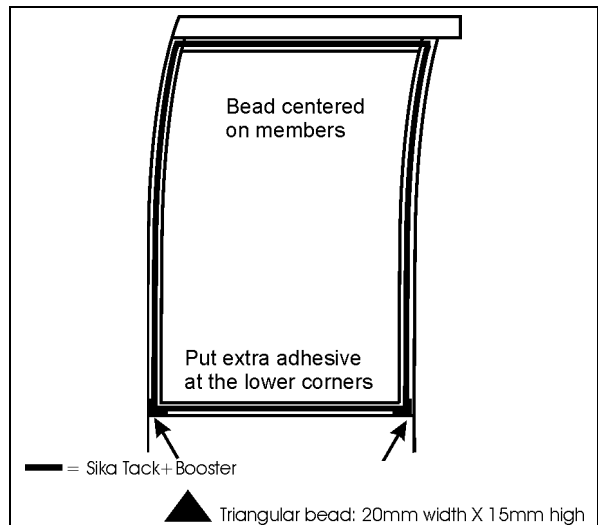
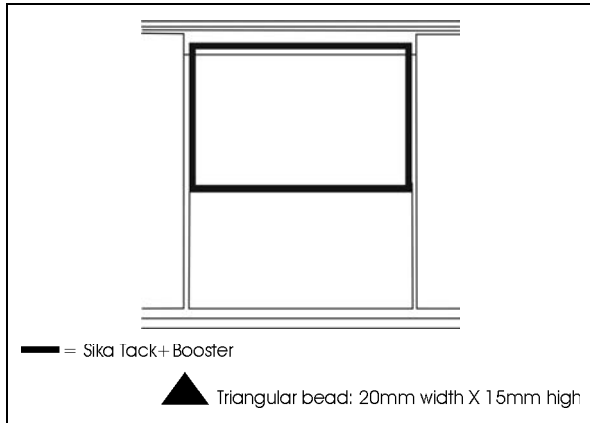

FIGURE 61 : SIDE WINDOW – SIKA TACK + BOOSTER
FIGURE 62 : HALF-WINDOW INSTALLATION – SIKA TACK+BOOSTER
10. Apply Sika Tack+Booster (triangular bead: 20mm width X 15mm high) as per FIGURE 61 (side window) or FIGURE 62 (half-window) [20mm≈13/16" ] [15mm≈19/32" ];